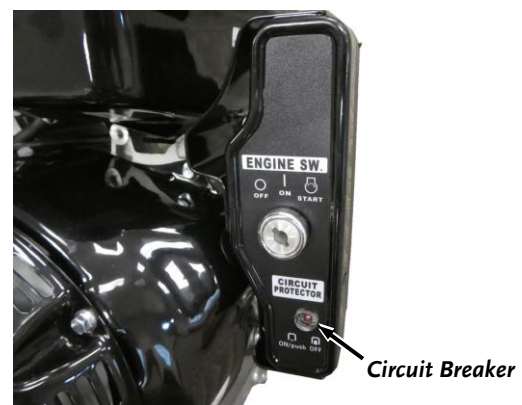

Figure 20
1. To reset the Circuit Breaker, press the Button in until the plunger stays pushed in to the “ON” position (**Figure 20**).